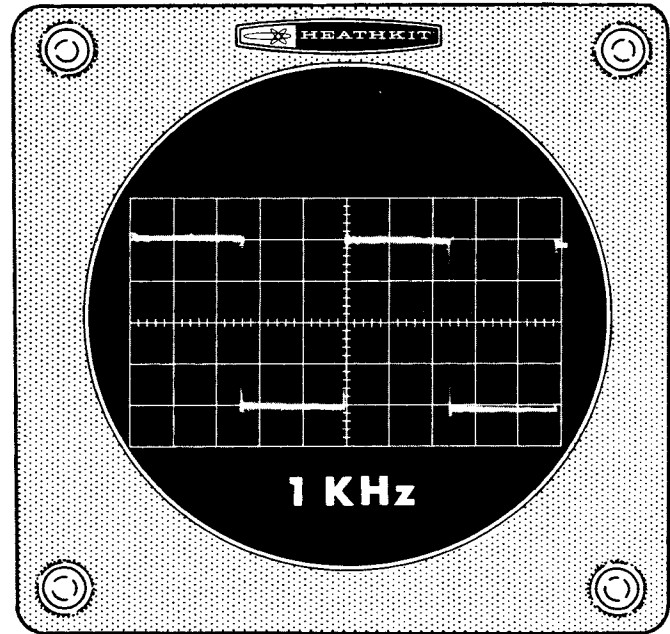

Figure 5
- () Adjust trimmer capacitor C2 until the waveform on the oscilloscope looks like the one shown in Figure 5. The horizontal lines should be straight and flat.